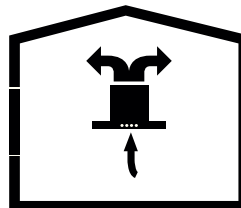

Fig. 6: Air Circulation with Carbon Filter
*Absorbed air is cleaned by the grease filters and an active carbon filter, and then it is transferred back to the kitchen. Fig. 6*